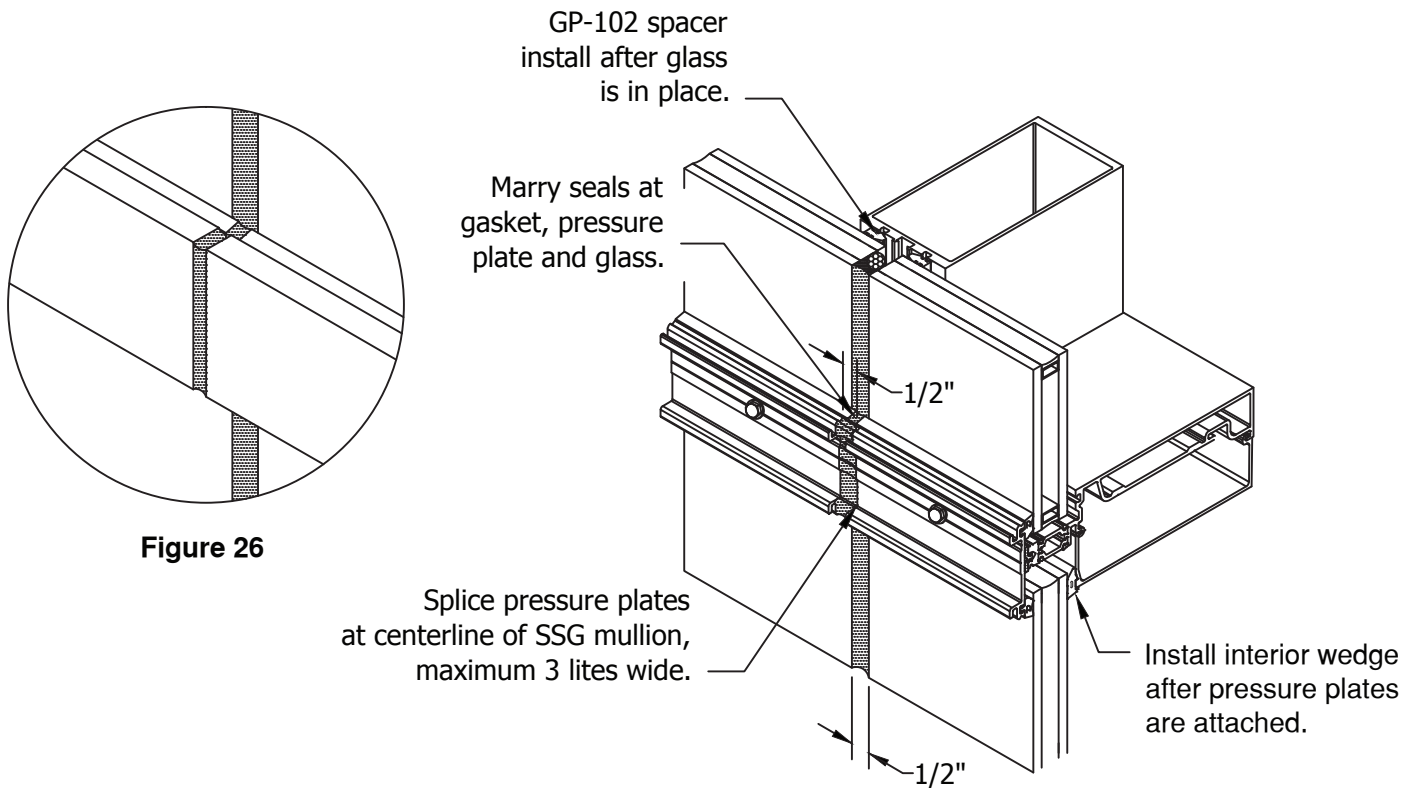

Figure 25
- 3.23 After installation of glass is complete, install GP-113 interior wedge around opening and for SSG system install GP-102 spacer along each side of vertical mullion pushing spacer behind glass to create a sealant joint of minimum 3/8" depth. (**SEE FIGURE 20, page 22**) Spacer should be cut vertical opening plus 1" and placed in opening to extend 1/2" above and below edge of horizontal. This joint should then cleaned using isopropyl alcohol and sealed using a structural silicone. When using pressure plates for SSG system, they will extend maximum 3 bays and should have 1/2" joint located at mullion centerline. Insert backer rod between pressure plates and seal. (**SEE FIGURE 25**)